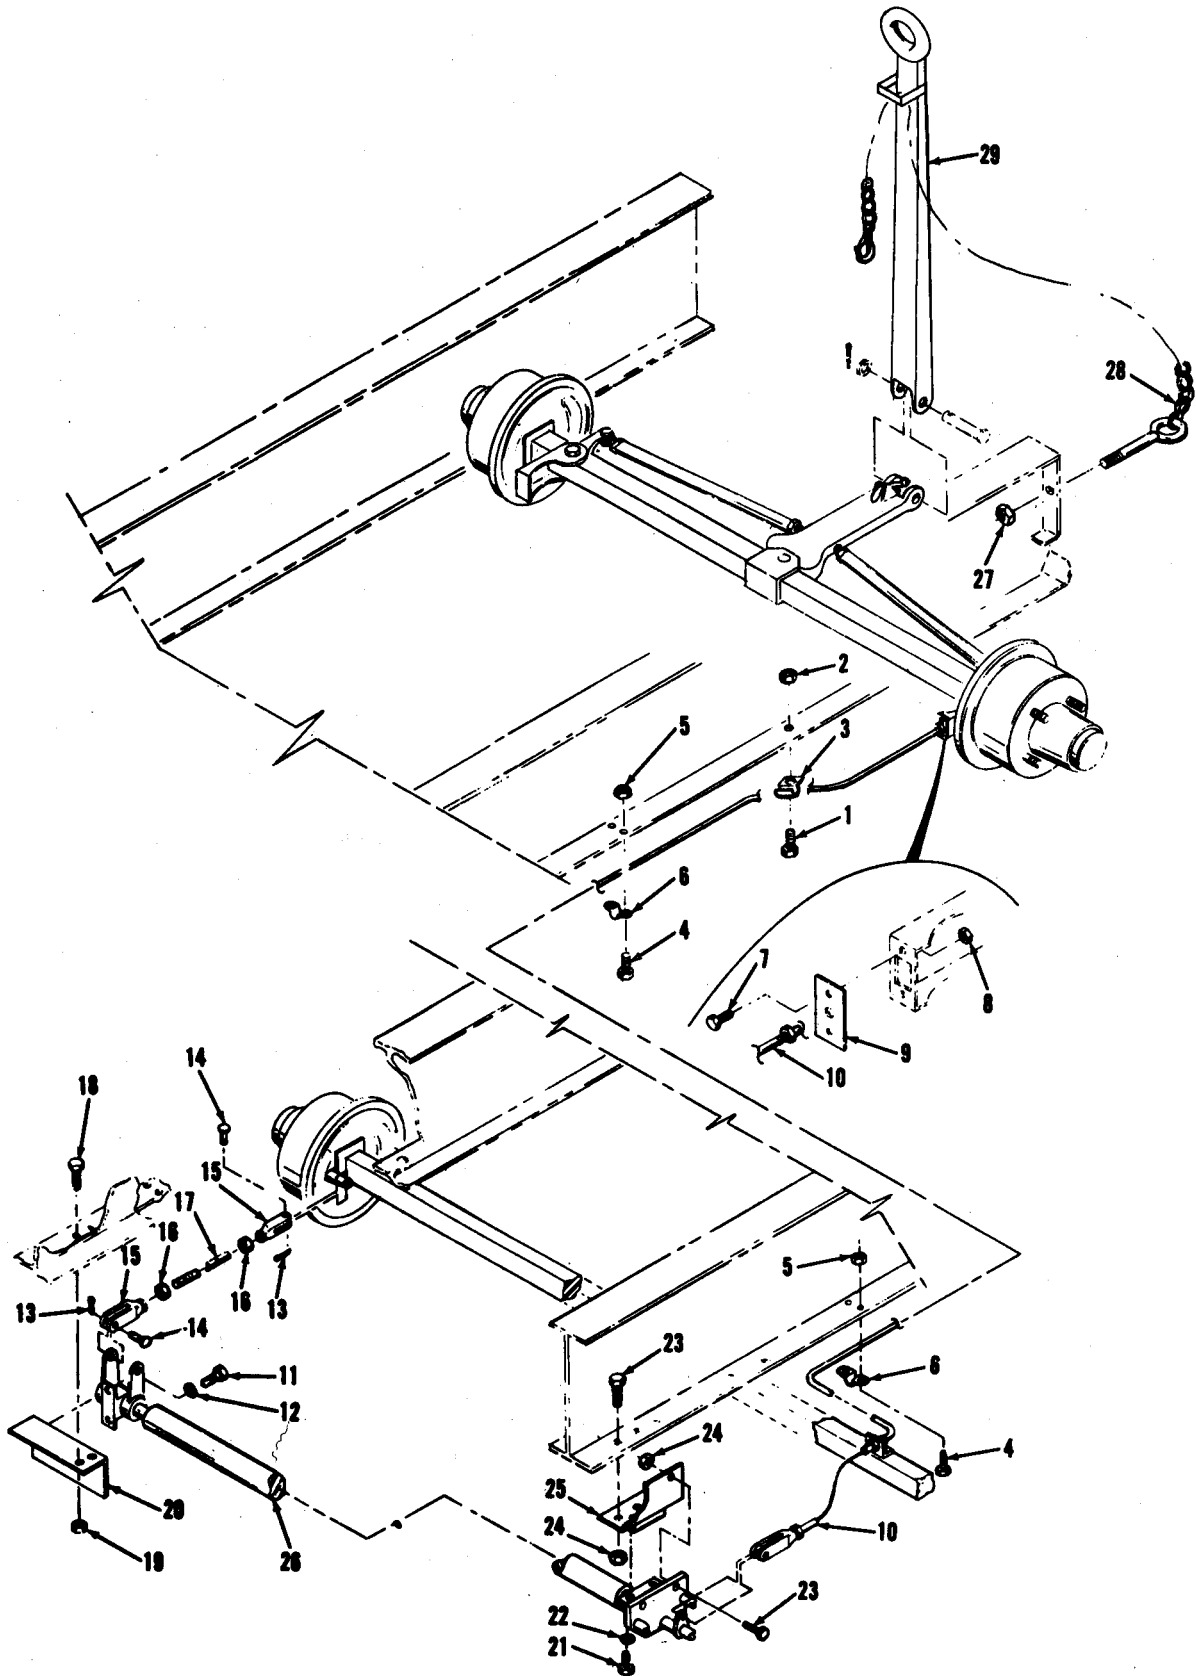

Figure 4-13. Brake linkages and cables, exploded view
a. REMOVAL. Refer to figure 4-13 and remove components in the order of index numbers assigned. Pay particular attention to the following:
Legend to figure 4-13:
c. INSTALLATION. Refer to figure 4-13 and install components in the reverse order of index numbers assigned. Pay particular attention to the following:
d. ADJUSTMENT. Refer to figure 4-13 and adjust hand brake as follows: